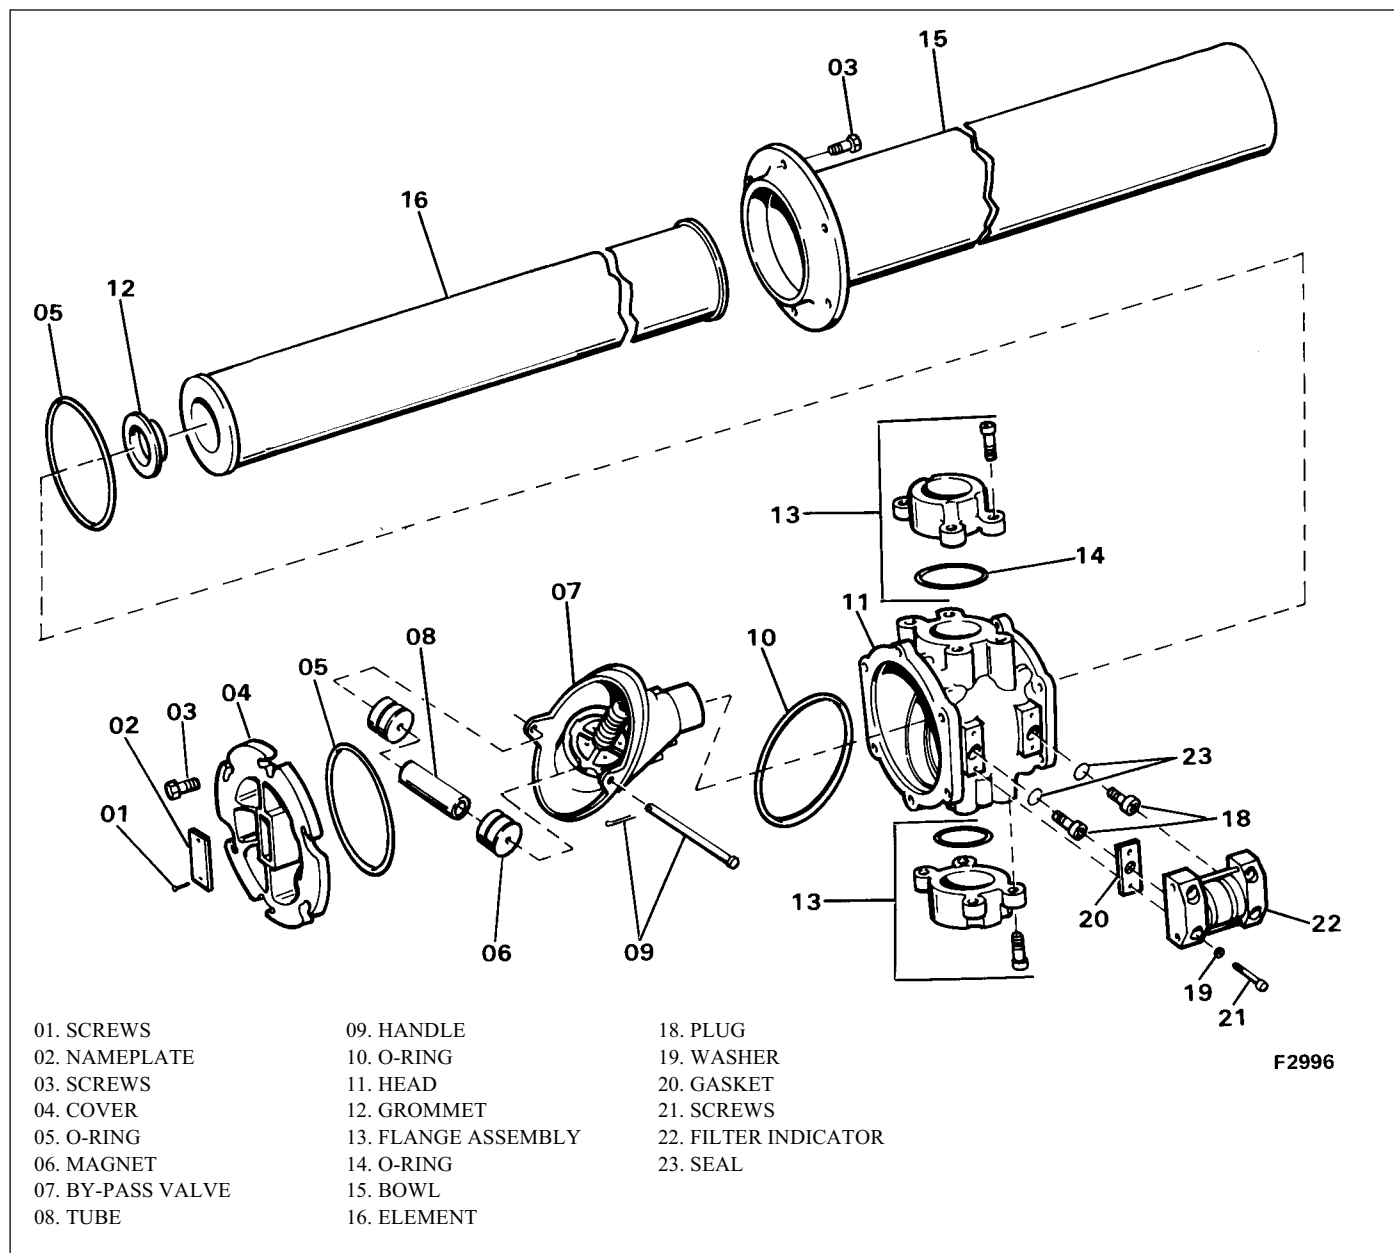

Figure 10-57. Oil Filter (46U110)
3. Refer to Figure 10-57 and service the filter as follows:
B. Loosen filter cover screws (03). Turn cover (04) counter-clockwise and remove it from the filter.
C. Remove bypass valve assembly (07) from filter head (11). Filter element (16) will come out with the valve assembly.